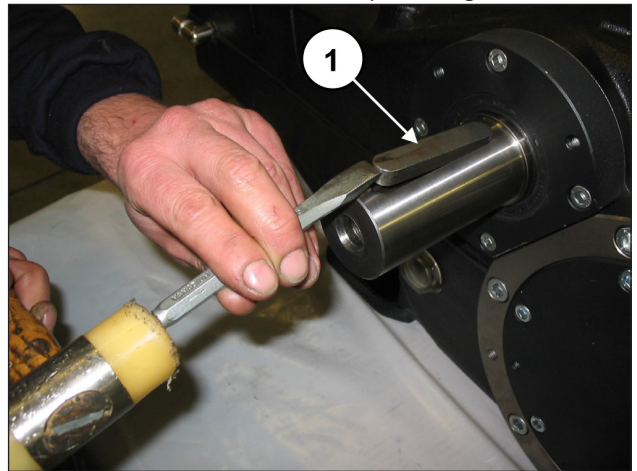

Fig. 8
Remove the tab from the PTO shaft (pos. ①, Fig. 8).